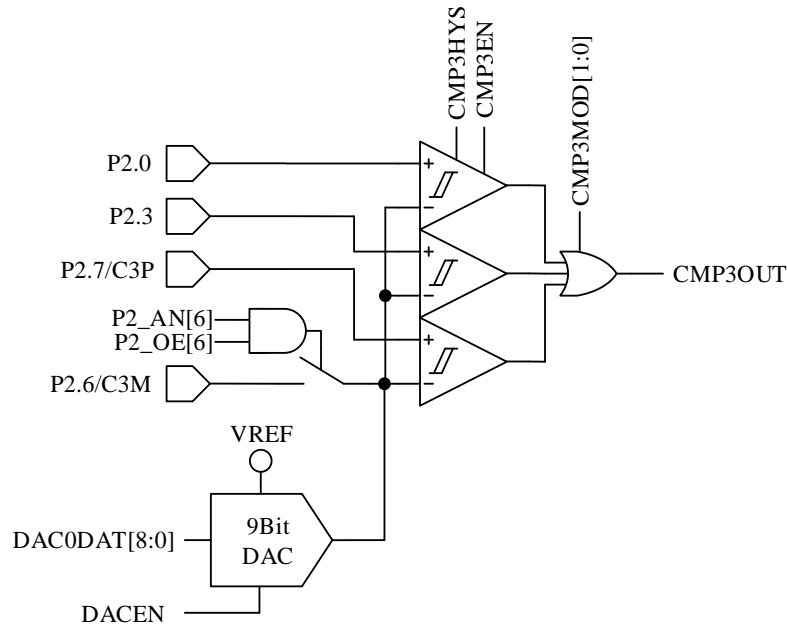

Figure 28-4 Triple-comparator Input Mode
- When CMP_CR1[CMP3MOD] = 1X, CMP3 works in triple comparator input mode. The connection of input and output pins are shown in Figure 28-4.